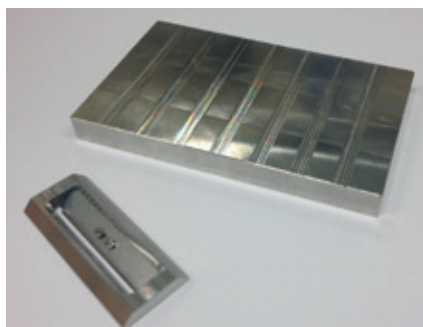

Figure 2. Innovative apparatus (cutter and block) used to literally split hairs.
One of the issues often raised is whether detected compounds are present because of external contamination or actual abuse. The use of decontamination protocols and the detection of unique metabolites is usually enough to discern this. An innovative apparatus (developed by FOM-AMOLF/M4I, see Figure 2) to prepare longitudinal sections coupled with high spatial resolution imaging techniques provides more detail for the consequences of decontamination protocols (2).